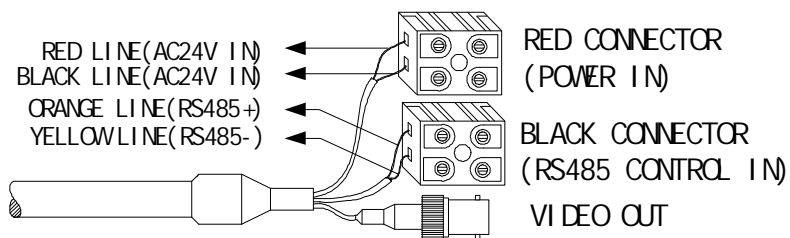

Figure 14
h) Connect the control cable as Figure 14